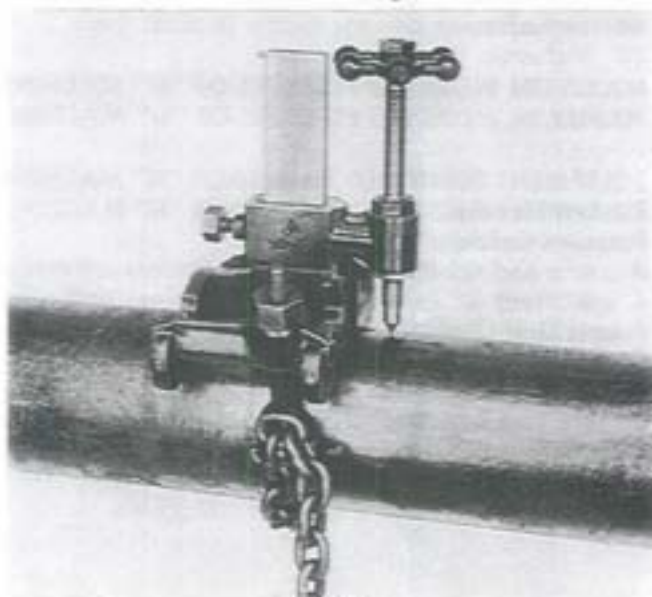

FIGURE 1
4. Screw down the feed screw until the point makes a slight indentation or mark on the pipe. **Figure 1.** Then unscrew again to raise it.